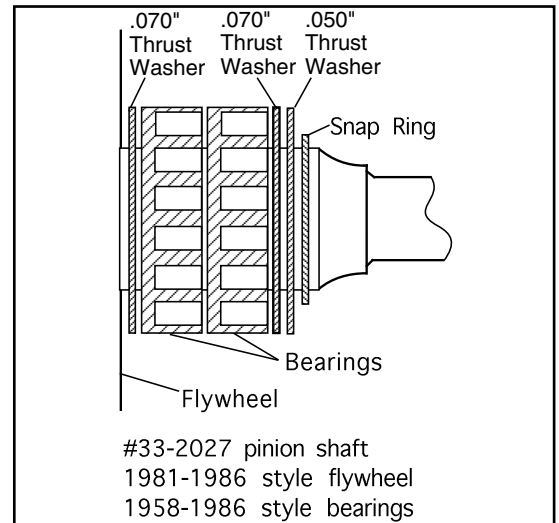

Figure 2
2. 1981- 1986 stock flywheels and S&S pinion shaft 33-2027 - two .070" thrust washers and one .050" thrust washers are normally used. Typical washer and bearing arrangement - .070" washer against flywheel, bearings, .070" washer, .070" or .050" washer, and snap ring. **See Figure 2.**